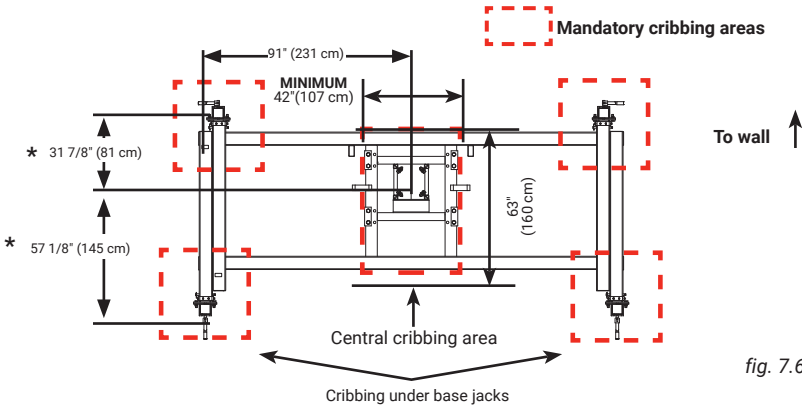

fig. 7.66
- 3- Before installing the freestanding base, determine where the cribbing under the base and jacks will rest (see fig. 7.66). Use the *Authorized Height Using a Freestanding Base* table on p. 97 of this section as a guide to determine the appropriate extension of the base outriggers and the location of cribbing.